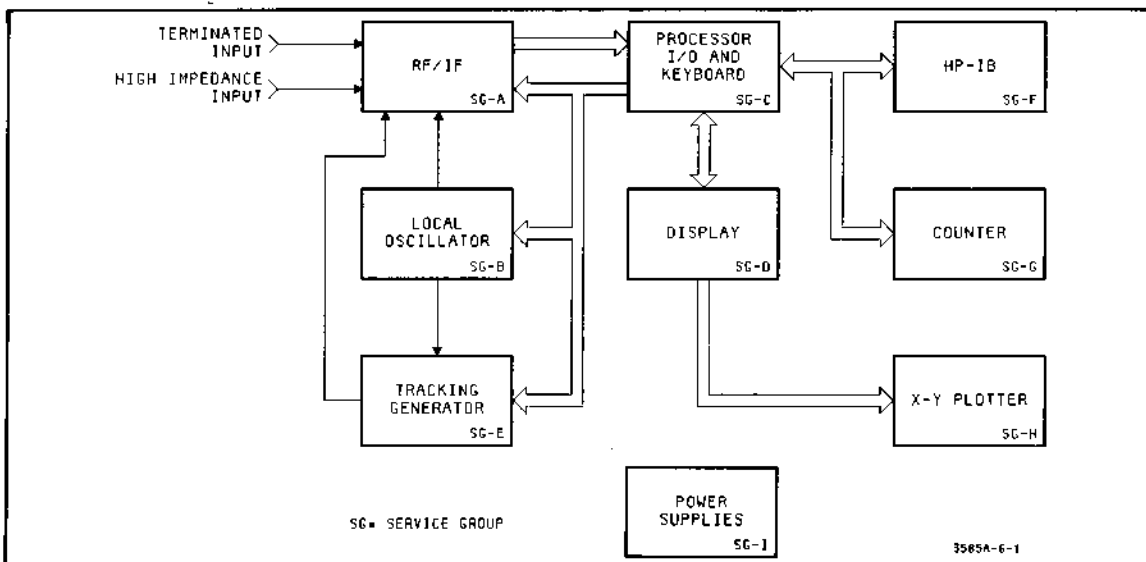

Figure 6-1. Circuit Functional Block Diagram
Figure 6-1 is a circuit functional block diagram of the -hp- 3585A Spectrum Analyzer. Each block shown represents a group of circuitry known as a Service Group (SG). Service Groups represent a logical division of the instrument's circuitry into areas of related operation. This section on Circuit Functional Descriptions, and Volumes Two and Three will be organized around the Service Groups shown in Figure 6-1. Circuit Functional Block Diagram. Figure 6-20. 3585A Detailed Block Diagram contains much more detail and can be found at the end of this manual section.